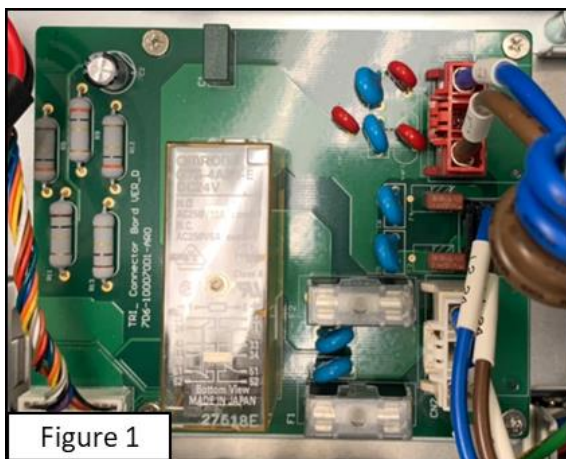

Figure 1
- Cut off the cable tie (as shown in Figure 1).
- Loosen the screw of the **Power Eater** at the left of the control box (as shown in Figure 1).
- Refer to the previous steps to disassemble the **Relay Board** (as shown in Figure 1).
- Loosen the screw at the left of the **Power Supply** (as shown in Figure 1).
- Refer to the previous steps to disassemble the Relay Board (as shown in Figure 1).